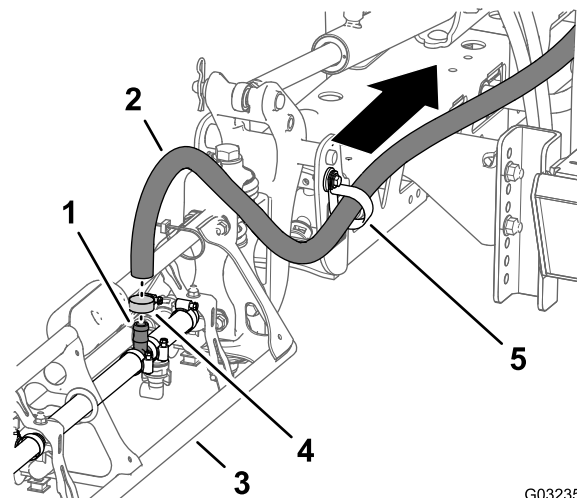

Figure 47
- At the outer boom section, remove the hose clamp that secures the supply hose for the boom section to the barbed T-fitting (Figure 47).
- Remove the hose from the T-fitting (Figure 47).
- Remove the free end of the hose from the R-clamp (Figure 47).